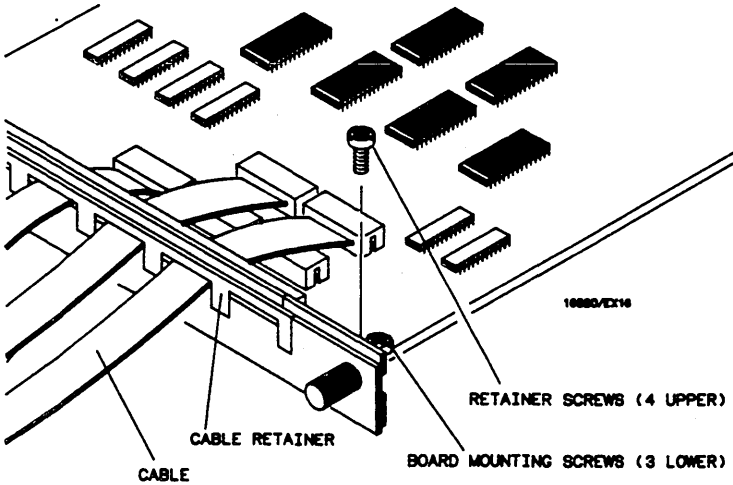

Figure 6-18. Retainer And Screws
- f. Using a No. 10 torx Ⓢ driver, remove four screws that hold cable retainer onto card. See figure 6-18.